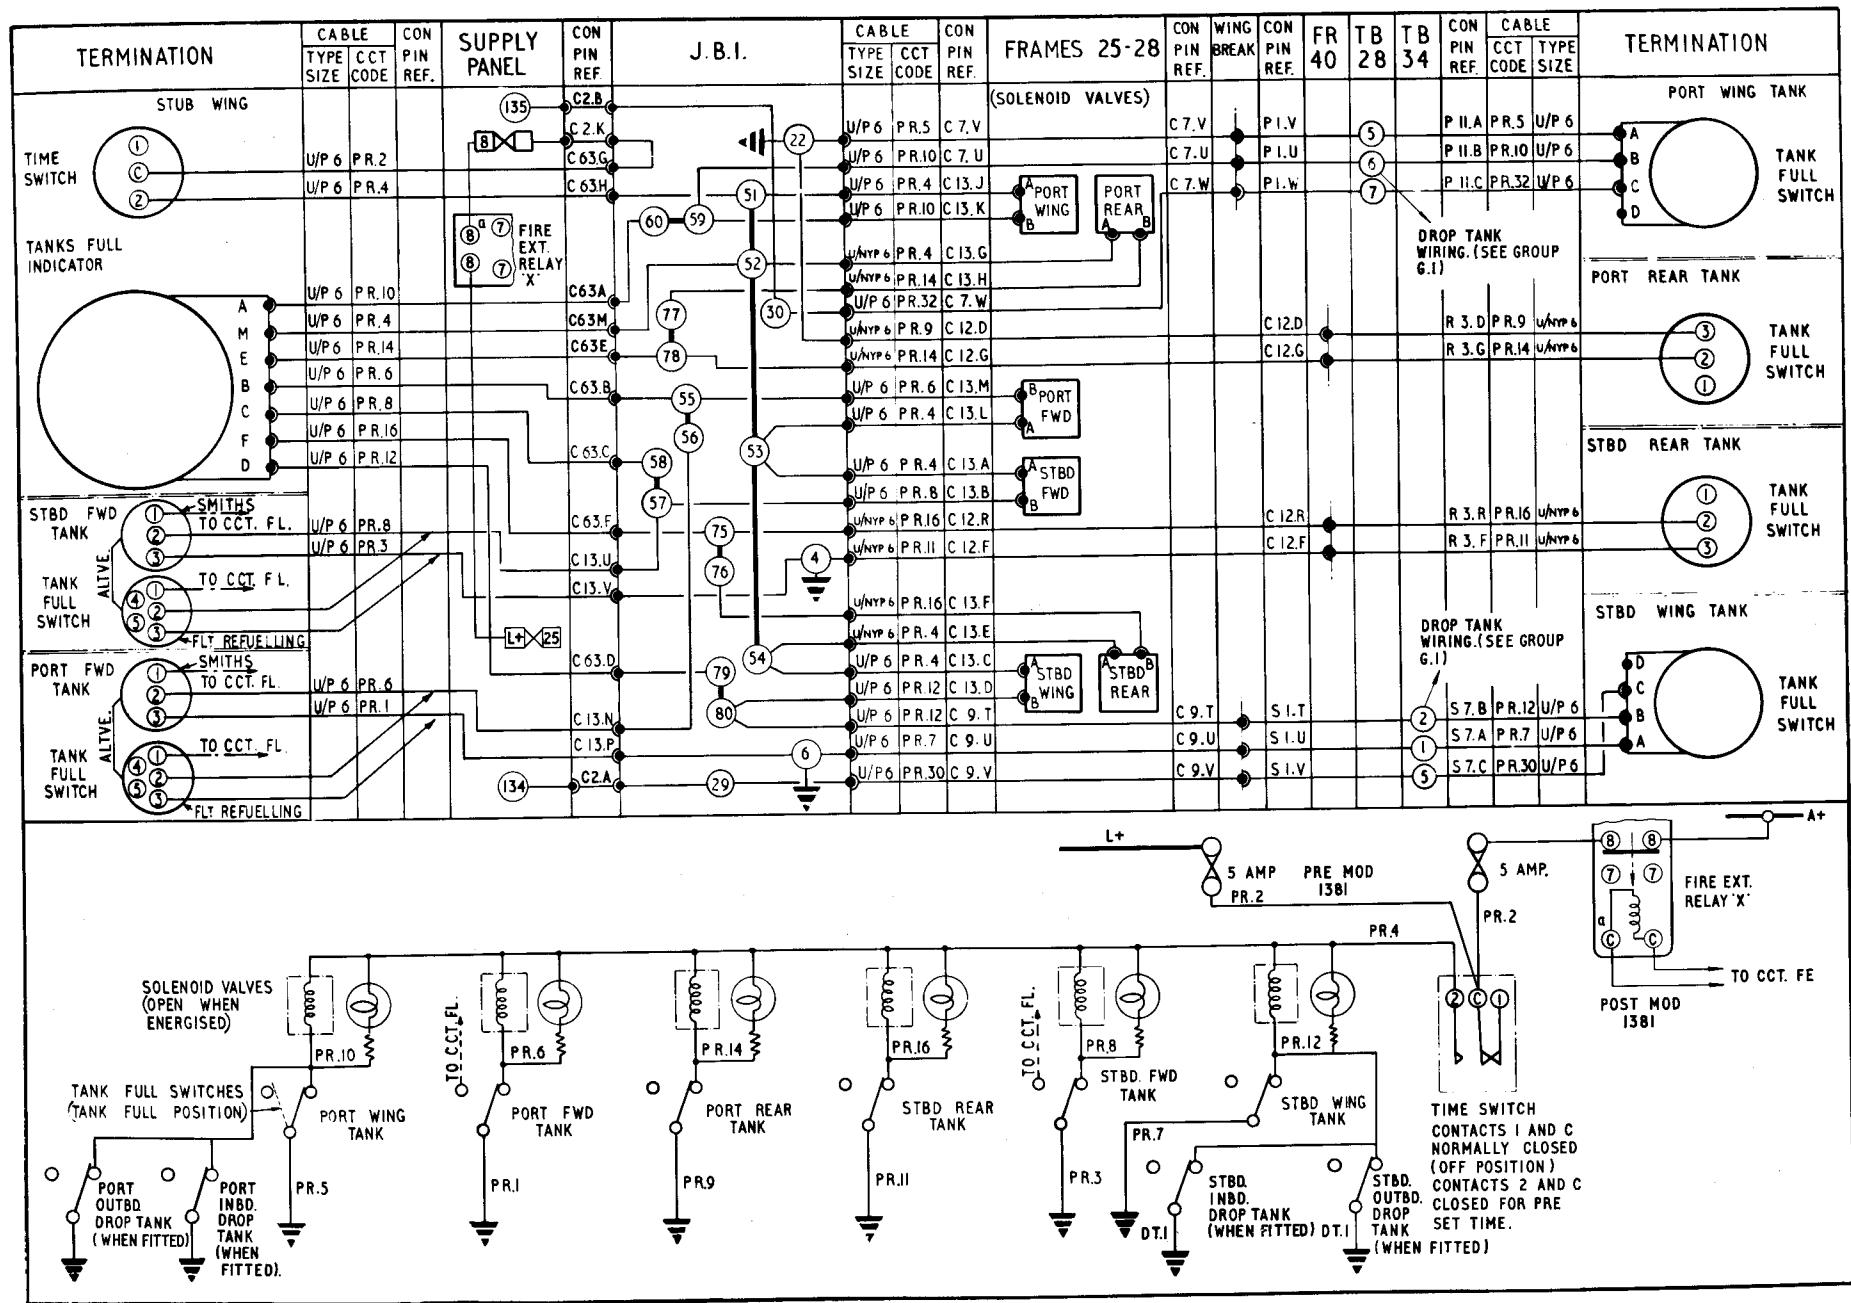
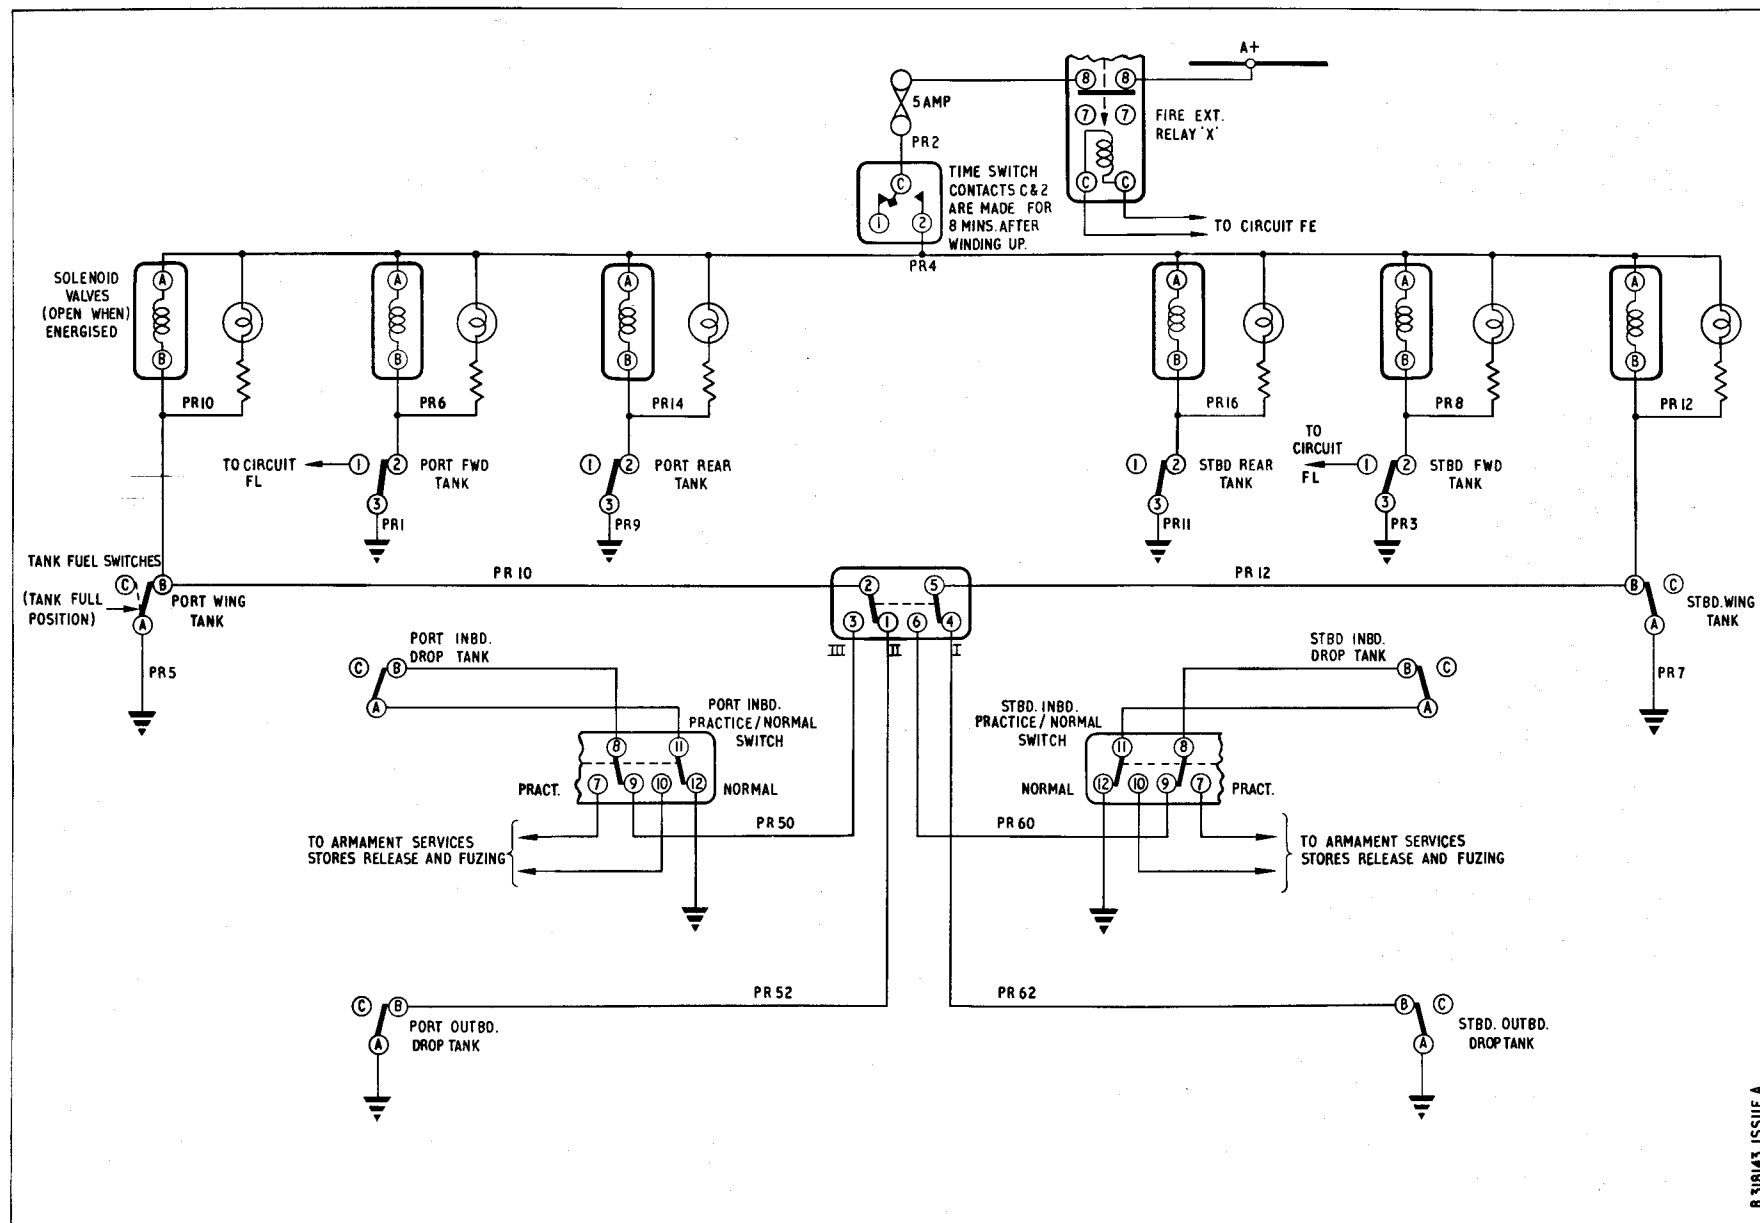
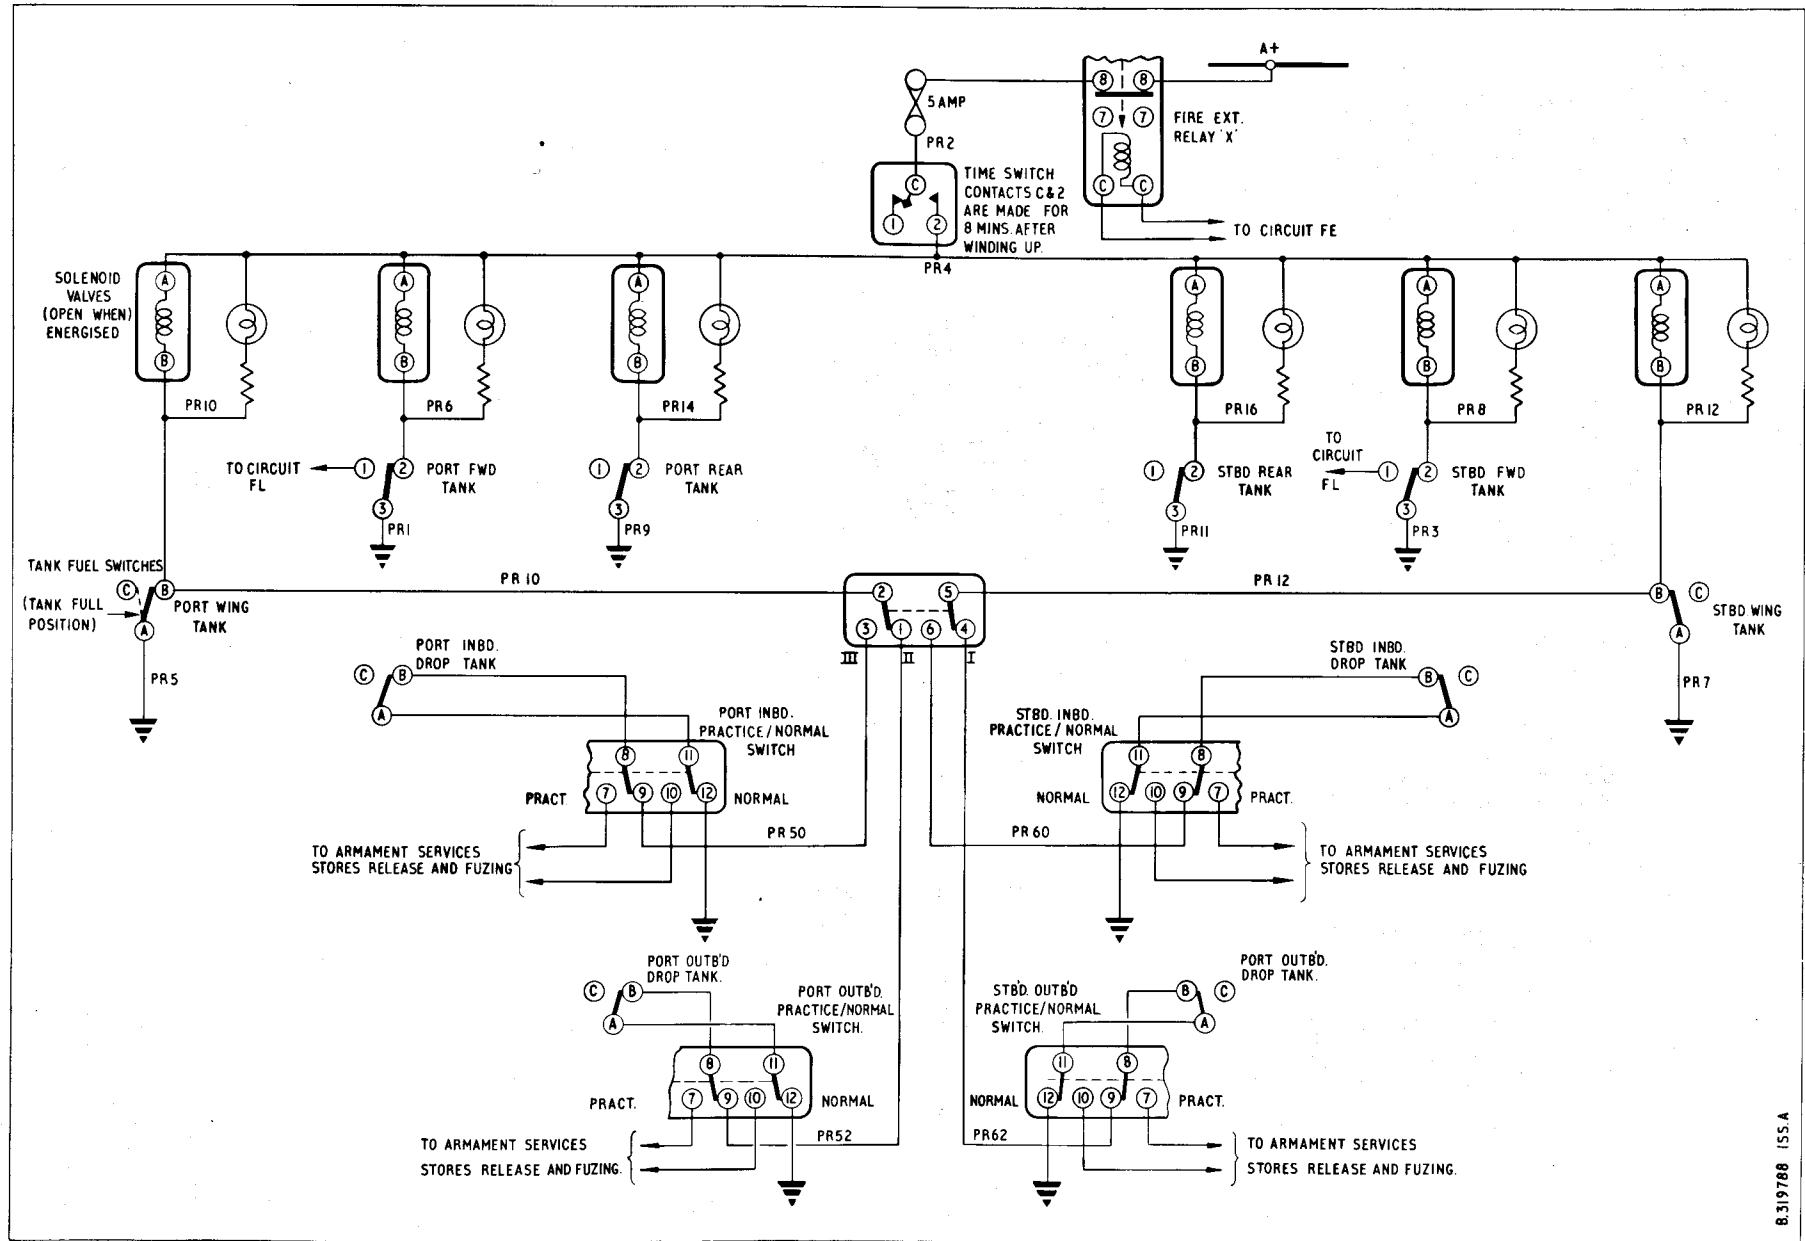

Fig. 2 Pressure refuelling
Fig.3 Pressure refuelling Mk.6A — post Mod.1023 and 1385 (theoretical)
Fig.5 Pressure refuelling Mk.6A – post Mod.1023, 1385 and 1388 (theoretical)
7. The aircraft is refuelled under pressure through a standard 1½ in. coupling situated in the port wheel bay, the operation being controlled by a pre-set time switch mounted in the port stub wing adjacent to the refuelling coupling. The time switch energises six solenoid-operated refuelling valves, located in the fuel pipe lines to the port and starboard front, rear and wing fuel tanks. These valves are controlled by fluid level switches located one, in each front, rear and outboard wing tanks and drop tanks when fitted. Filament lamps, carried in an indicator located in the stub wing, adjacent to the time switch, are wired in parallel with each refuelling valve solenoid to indicate when the valves are open during refuelling. Theoretical and routing diagrams of the pressure refuelling circuit pre Mod.1023, 1385 and 1388 is shown at fig.2, post Mod.1023, 1385 at figs.3 and 4 and post Mod.1023, 1385, 1388 at figs.5 and 6. ▶